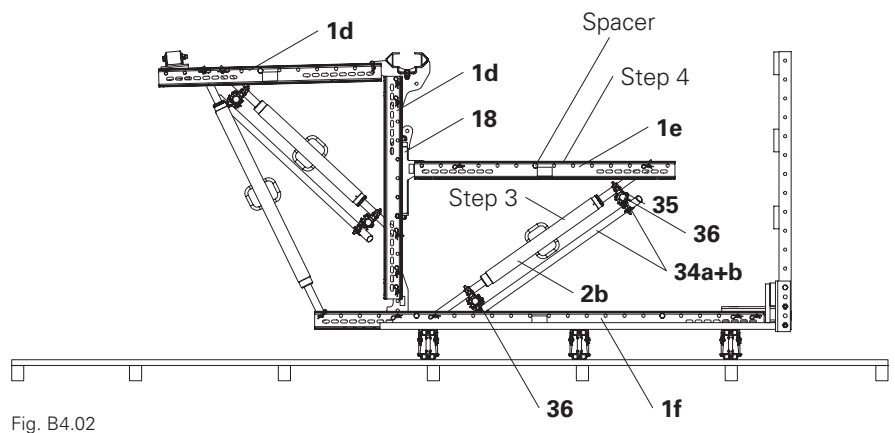

Fig. B4.02
3. Bolt the Heavy-Duty Spindle SLS (2b) onto the Steel Waler SRU U120 (1f) using 1x fitting pin Ø 21 mm (26). (Fig. B4.02)
4. Bolt the horizontal Steel Waler SRU U120 (1e) onto the Adjusting Unit VARIOKIT (18) using 1x fitting pin Ø 21 mm (26).
5. Bolt the horizontal Steel Waler SRU U120 (1e) onto the Heavy-Duty Spindle SLS (2b) using 1x fitting pin Ø 21 mm (26).
6. Fit horizontal steel scaffolding tubes (34a) onto the threads of the Heavy-Duty Spindles SLS (2b) using Standard Couplers RA 48/48 (35) (top and bottom).